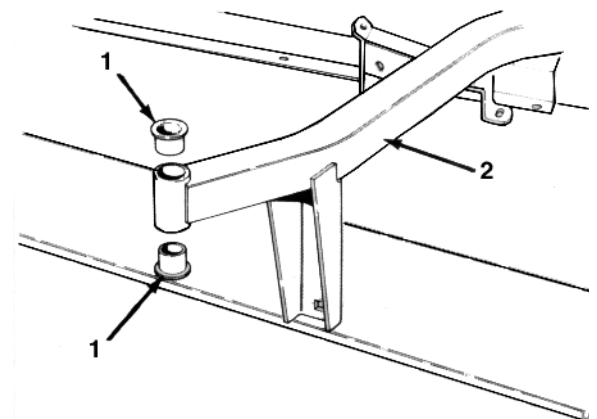

Figure 12
- 4 Mount a belt on lower pulley groove of left spindle, slide belt under belt idler mount plate and install around center spindle pulley. Tension belt by levering idler pulley against belt and tighten idler pulley flange nut (Fig. 12).